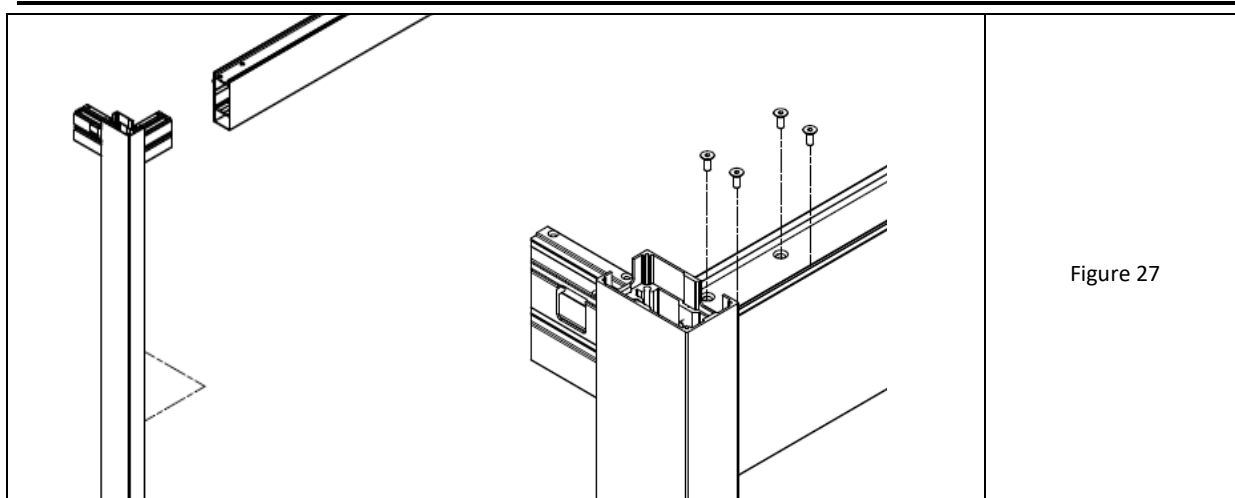

Figure 27
9. Integrate the cross frame by sliding it horizontally into the cross beam (without wall drillings) at both ends of the previously merged posts (fig. 27). Pay attention to the correct setting of outflows and foot types.